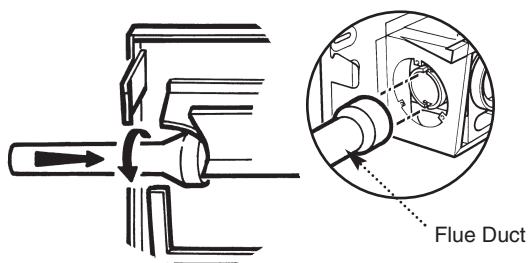

Fig. 55
3. Locate the flared end of the flue duct over the bayonet fitting on the turret, taking care not to damage the 'O' ring. Lock the flue in place by pressing in and turning clockwise (Fig. 55).